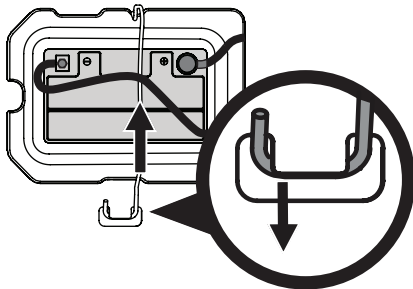

Fig. 24
NOTE: Wiring harness should lay on top of battery hold down rod, otherwise damage to the wiring harness may result (Fig. 24 on page 14).
- Remove the battery hold down rod by pushing the hooked end out of the tab on the fender to the right side of the battery. Then flip the battery hold down rod up to free the battery (Fig. 24).